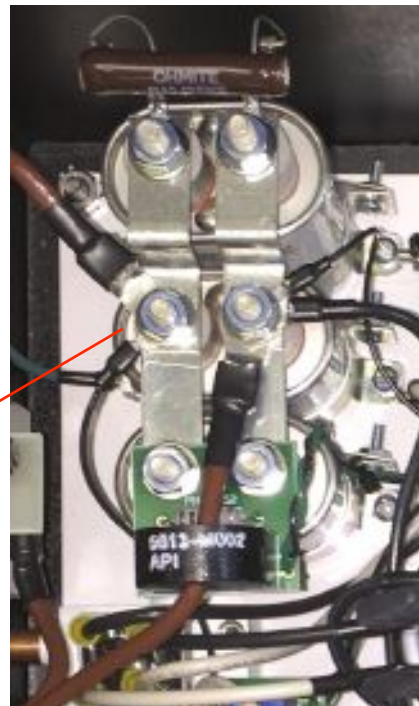

Fig. 18
7.1.1. Visually inspect the grey load capacitor cans as indicated in Fig 18. If any of the cans appear swollen or are leaking fluid, the capacitor(s) should be replaced.